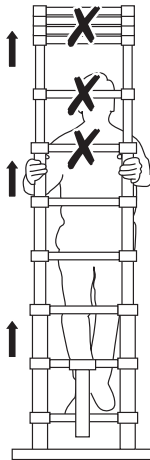

Fig. 2
- c. Never use the top first meter (Fig. 2) for standing.